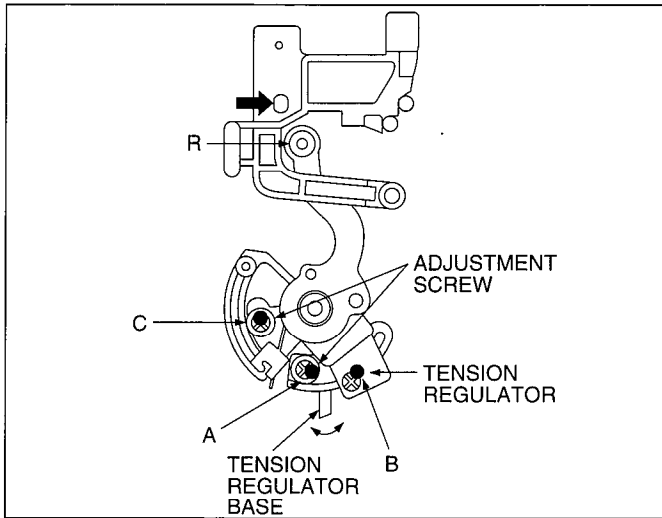

Fig. E-6
When this adjustment is done, melt the grew of the adjustment screws as shown in Fig. E-6
6. Grew the screw A, B and C after Tension Arm Adjustment. The grew quantity at B portion is half of A and C portions as shown in Fig. E-6.